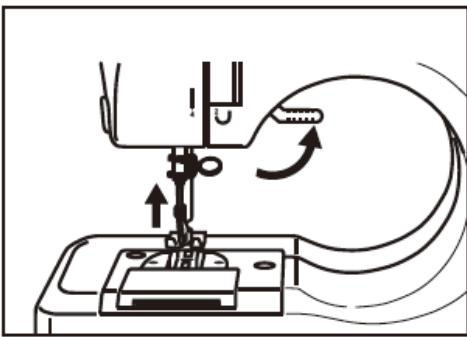

Fig.11
2. Raise the presser foot lifter and place the fabric you want to sew under the presser foot (Fig.11).